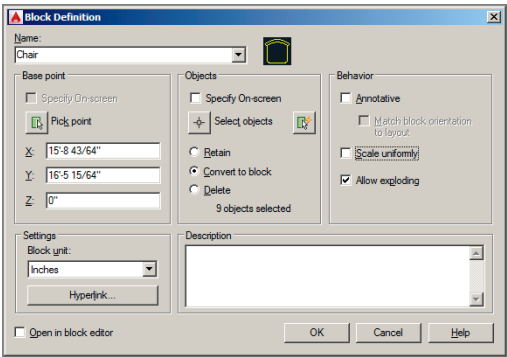

FIGURE 7.5 Defining a chair block
- 16. Every block has a *base point*, which should be related to its geometry. Click the Pick Point button in the Base Point section; the Block Definition dialog box disappears. Hold Shift, and right-click to open the context menu; select Midpoint. Click the midpoint of the chair's front edge. The Block Definition dialog box reappears, showing the coordinates of the point to which you snapped (see Figure 7.5).